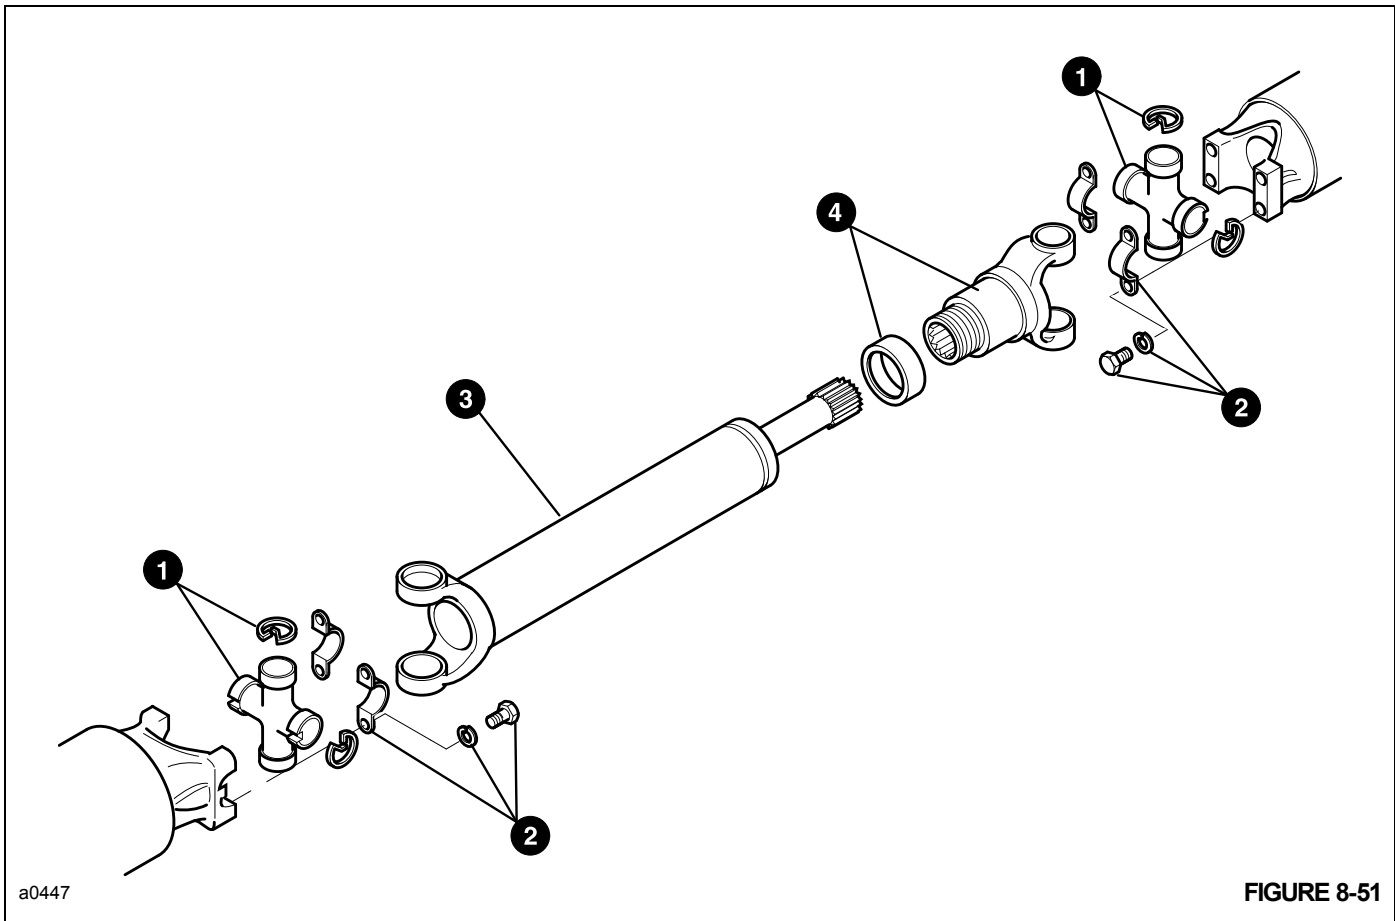

FIGURE 8-51
The retaining straps **2** Figure 8-50 and Figure 8-51 stretch with use, therefore these straps must always be replaced with new ones.
1. Remove two snap rings from the bearing caps in the slip yoke **4** Figure 8-51.
6. Apply SAE 140 oil to splines on the sleeve yoke 3 Figure 8-50 and Figure 8-51. Assemble the dust cap assembly to the sleeve yoke. Slide the sleeve yoke into the slip yoke (4). Make sure both ends of the drive shaft are in the same plane. Tighten the dust cap assembly.
5. Apply SAE 140 oil to splines on the sleeve yoke 3 Figure 8-50 and Figure 8-51. Assemble the dust cap assembly to the sleeve yoke. Slide the sleeve yoke into the slip yoke 4. Make sure both ends of the drive shaft are in the same plane. Tighten the dust cap assembly.
1. Fasten cross 1 Figure 8-51 to the front axle yoke using a new strap kit 2.